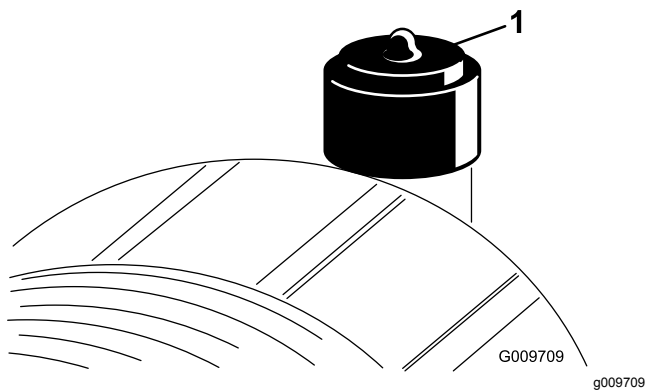

Figure 54
Service the air-cleaner filter only when the service indicator (Figure 54) requires it. Changing the air filter before it is necessary only increases the chance of dirt entering the engine when you remove the filter.
2. Reset the indicator (Figure 54) if it shows red.